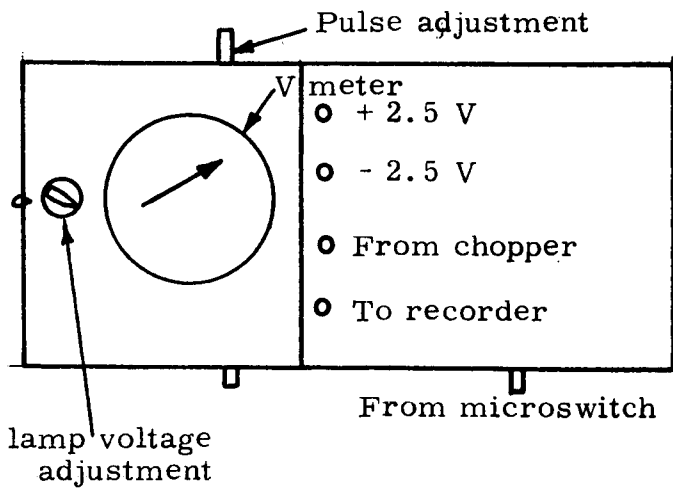

Figure 13. Pulse squaring box (top view)
1. Pulse squaring circuit(see figure 13, 14)